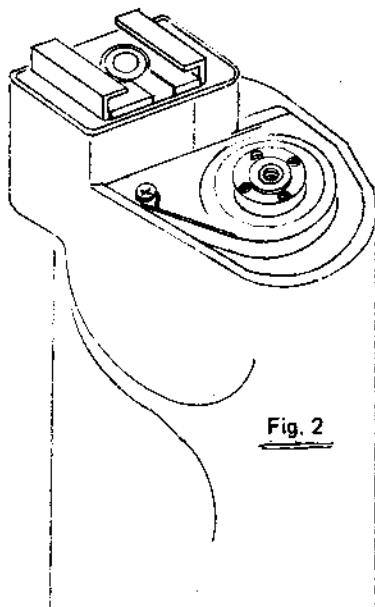

Fig. 2
- 3) Since the winding claw (#1) of the winding wheel (A730050) is riding on the wind-stopper ratchet (#2), in this case, loosen the fixing screw (A230261) and then press on the part indicated as A, in the drawing, so that the winding claw (#1) catches the wind-stopper ratchet teeth. (This operation should be undertaken without detaching the winding wheel, or in the condition shown in Fig. 2.)